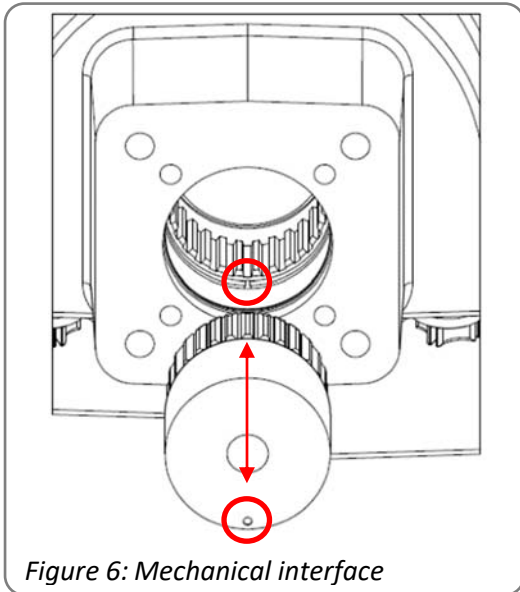

Figure 6: Mechanical interface
- Put either (A) the actuator with the drive bush on the gearbox or (B) at first the drive bush and then the actuator on the gearbox (see figure 6 for reference).